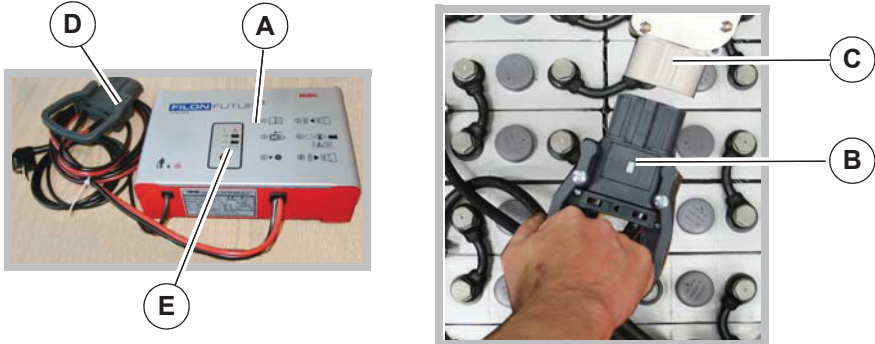

Fig. 23:
Charge the batteries with a stationary charger as, for example, shown in **Fig. 23-A**. The batteries can be charged when two fields in the charging status indicator **Fig. 22-57** have gone out.
2. Disconnect the battery plug **Fig. 23-B** from the machine plug **Fig. 23-C**.
3. Connect the battery plug to the plug of the charger **Fig. 23-D**.
5. The progress of the charging process is displayed in the display **Fig. 23-E** of the charger. In the meantime, the charging control indicator **Fig. 22-57** in the display panel is not active!